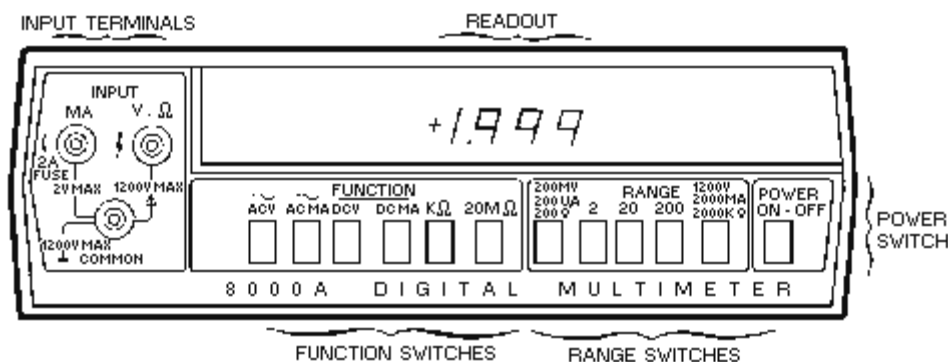

Figure 4-8.—Digital voltmeter 8000A operating features.
One example of a typical electronic multimeter in use within the Navy is the electronic Model 8000A Digital Multimeter. Most electronic digital multimeters overcome the disadvantage of requiring a continuous external power source by combining an external ac source with an internal rechargeable battery. Another advantage of this meter is that it can be read directly and does not use a scale. Figure 4-8 shows the model 8000A multimeter.
The locations of all controls, connectors, and indicators are shown in figure 4-8. The INPUT terminals, located on the left-hand side of the meter face, provide input connections for voltage or resistance (V-?) and milliampere current (MA) measurements with respect to the common terminal. The readout section, located across the upper half of the meter face, contains light-emitting diode (LED) indicators. They display the measured input and polarity signs for dc measurements. The POWER switch, located on the lower right-hand side of the meter face, is a push-button switch used to energize the instrument. The RANGE switches, located on the lower, middle, right-hand portion of the meter face, select the voltage (200 millivolts, 2, 20, 200, or 1,200 volts), current (200 microamperes, 2, 200, or 2,000 milliamperes), and resistance (200 ohms, 2, 20, 200, or 2,000 kilohms) ranges. The FUNCTION switches, located on the lower, middle, left-hand portion of the meter face, select the voltage, current, or resistance modes. The MA input terminal is also a fuse holder for the current protection fuse.